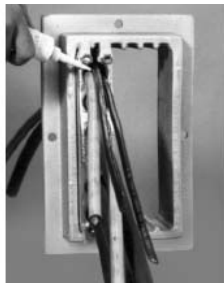

Figure 7.
- Arrange cables in slots of installed TWB Sealing Block Assembly section. While holding these cables in place, slide the mating section of sealing block into frame (see Figure 7).
- Install TWR Reducers where needed. Fill unused frame spaces with blank TWB1 or TWB3 Sealing Block Assemblies. Fill unused openings in the TWB Sealing Block Assemblies with correct size TWP Plug. Be sure TWP Plugs and TWR Reducers are fully inserted into openings of sealing block assemblies (see Figure 7).
- Any number of cables may be installed in a single 1/2" (12.7mm) or 3/4" (17.8mm) opening of a TWB Sealing Block Assembly provided the bundle diameter does not exceed the size of the opening in the sealing block. (Do not install multiple cables in openings larger than 3/4"). For proper assembly, fully seal spaces between cables with General Electric RTV7403 or RTV106 High Temperature Sealant (or equivalent) just prior to tightening compression hardware (see Figure 7).